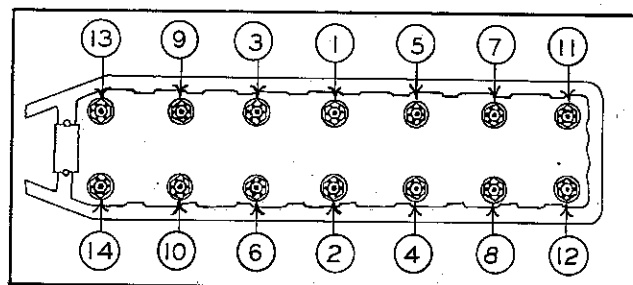

Figure 54—Cylinder Head Stud Tightening Sequence.
(1) CYLINDER HOLD-DOWN NUTS.—At the end of the first five hours flying time of a new or newly overhauled engine, the cylinder hold-down nuts should be inspected for tightness. No further checking of these nuts will be necessary until the next overhaul. In general the nuts will usually be somewhat loose because of settling of the cylinder blocks and compression of gasket paste on the cylinder barrel bearing plates. The nuts are tightened as follows: Turn the nut so that it just makes contact with the boss, but does not load the stud. Then tighten it by turning through an angle of 90° to 110°. Cotter each nut after final tightening. In doing this, *only one nut* on a block should be tightened at a time to avoid possibility of breaking the crankcase cylinder block seal. The tightening sequence indicated in Fig. 54 should be followed.